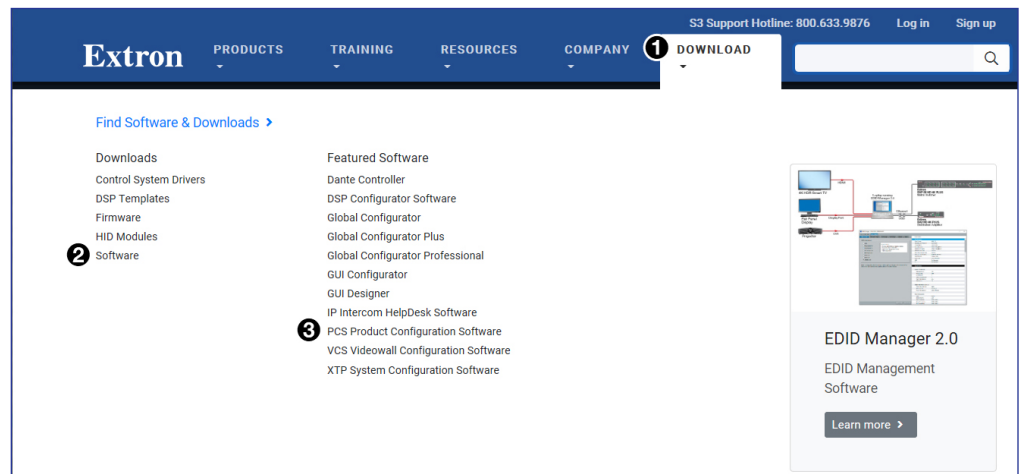

Figure 8. Software and Firmware Links on Download Screen
1. Mouse over the **Download** link at the top of the page (figure 8, ①).
2. Click the appropriate link on the left sidebar menu (②).